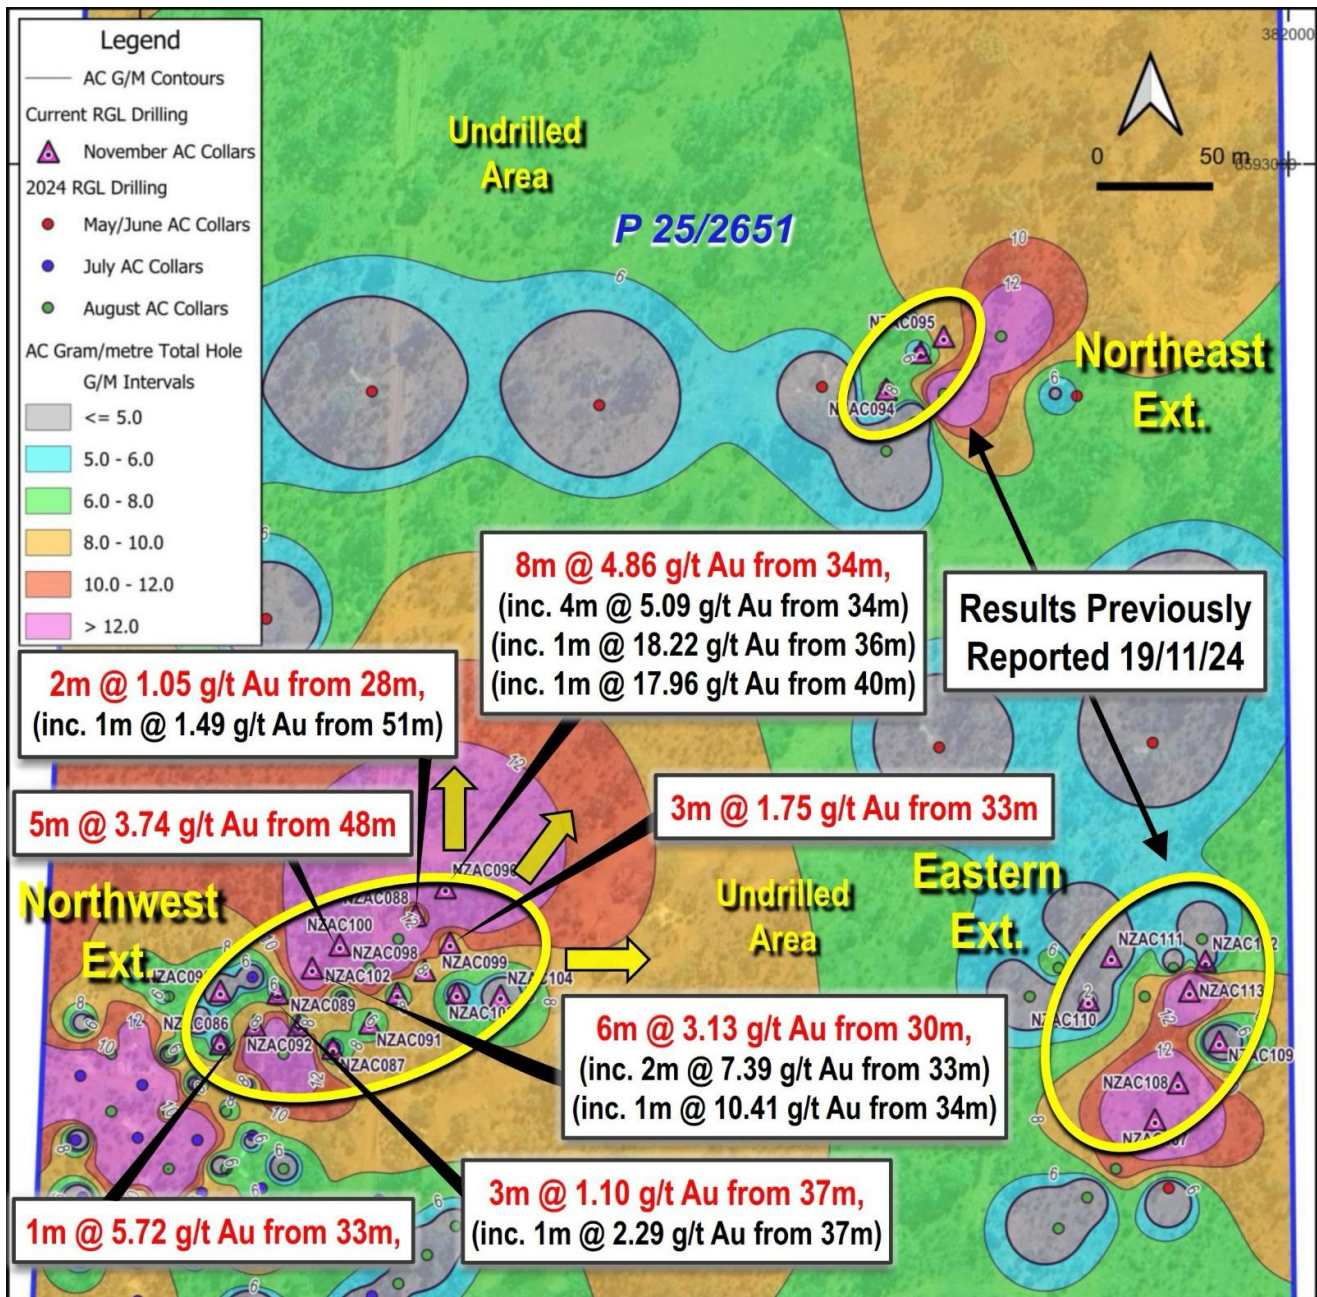

Figure 1: Recent drill collar plan with gold grade contours from all aircore drilling results to date.
- Continuation of the high-grade oxide zone within the 600m wide porphyry system has been expanded (see Figure 1)